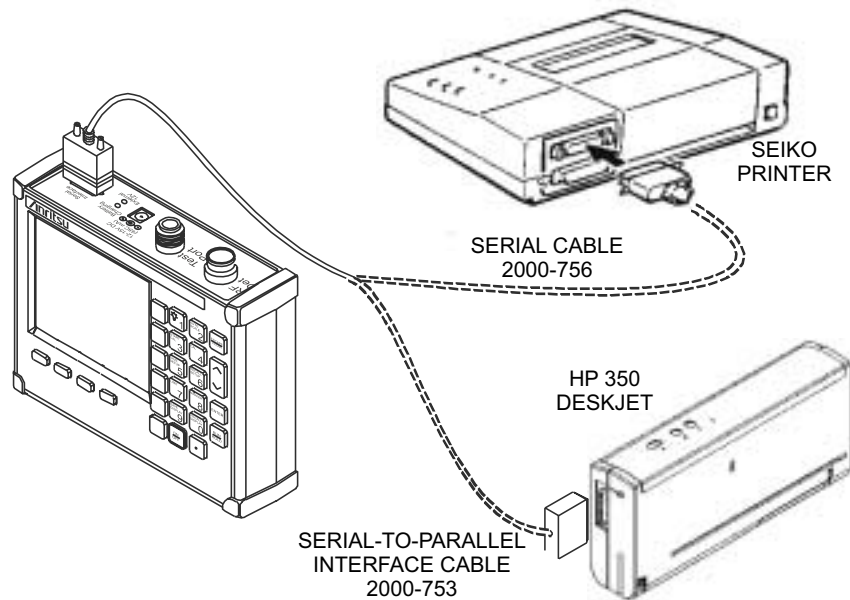

Figure 2-12. Printer Setup
Figure 2-12 shows a setup diagram for two types of printers. Refer to the printer manual for setup details.
Step 1. Connect the printer as shown in Figure 2-12.